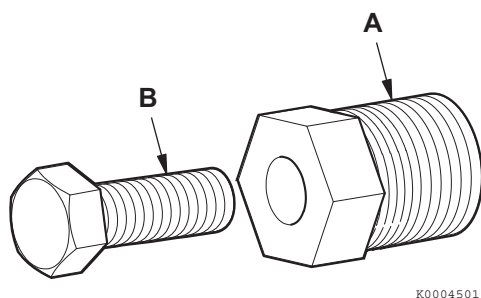

Figure 16
2. Install puller (Figure 16, (A)) in the impeller.
3. Turn the jack screw (Figure 16, (B)) clockwise to remove the impeller from the pump body.